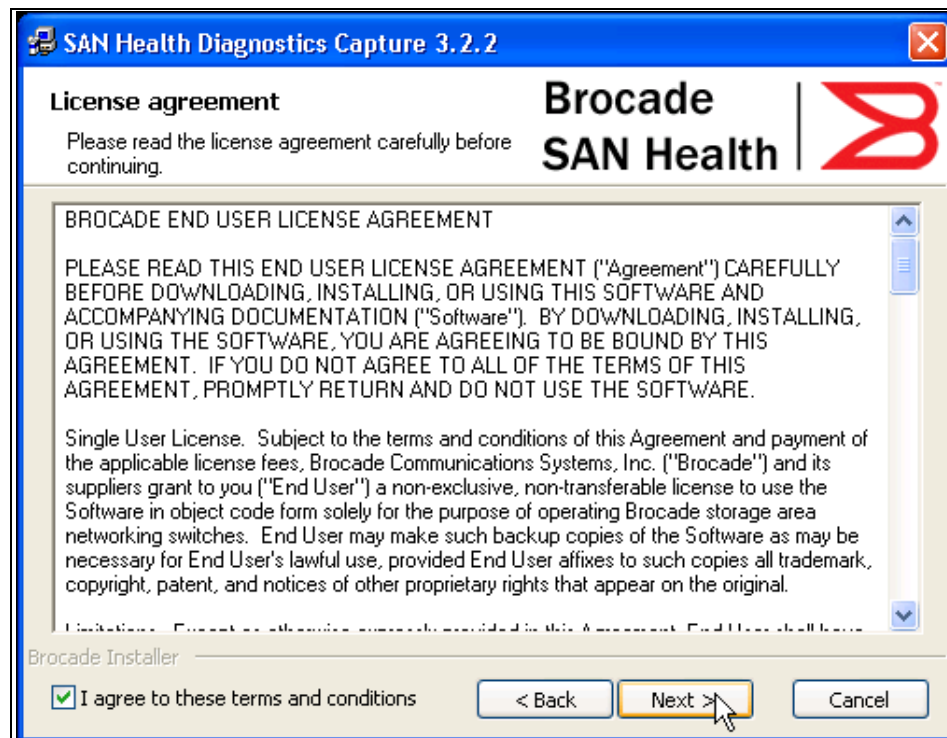

Figure 17-2 SAN Health license agreement
4. The license agreement displays, as shown in Figure 17-2. Read the license agreement. If you agree to the terms of the license, select **I agree to these terms and conditions**, and click **Next**. Otherwise, click **Cancel**.